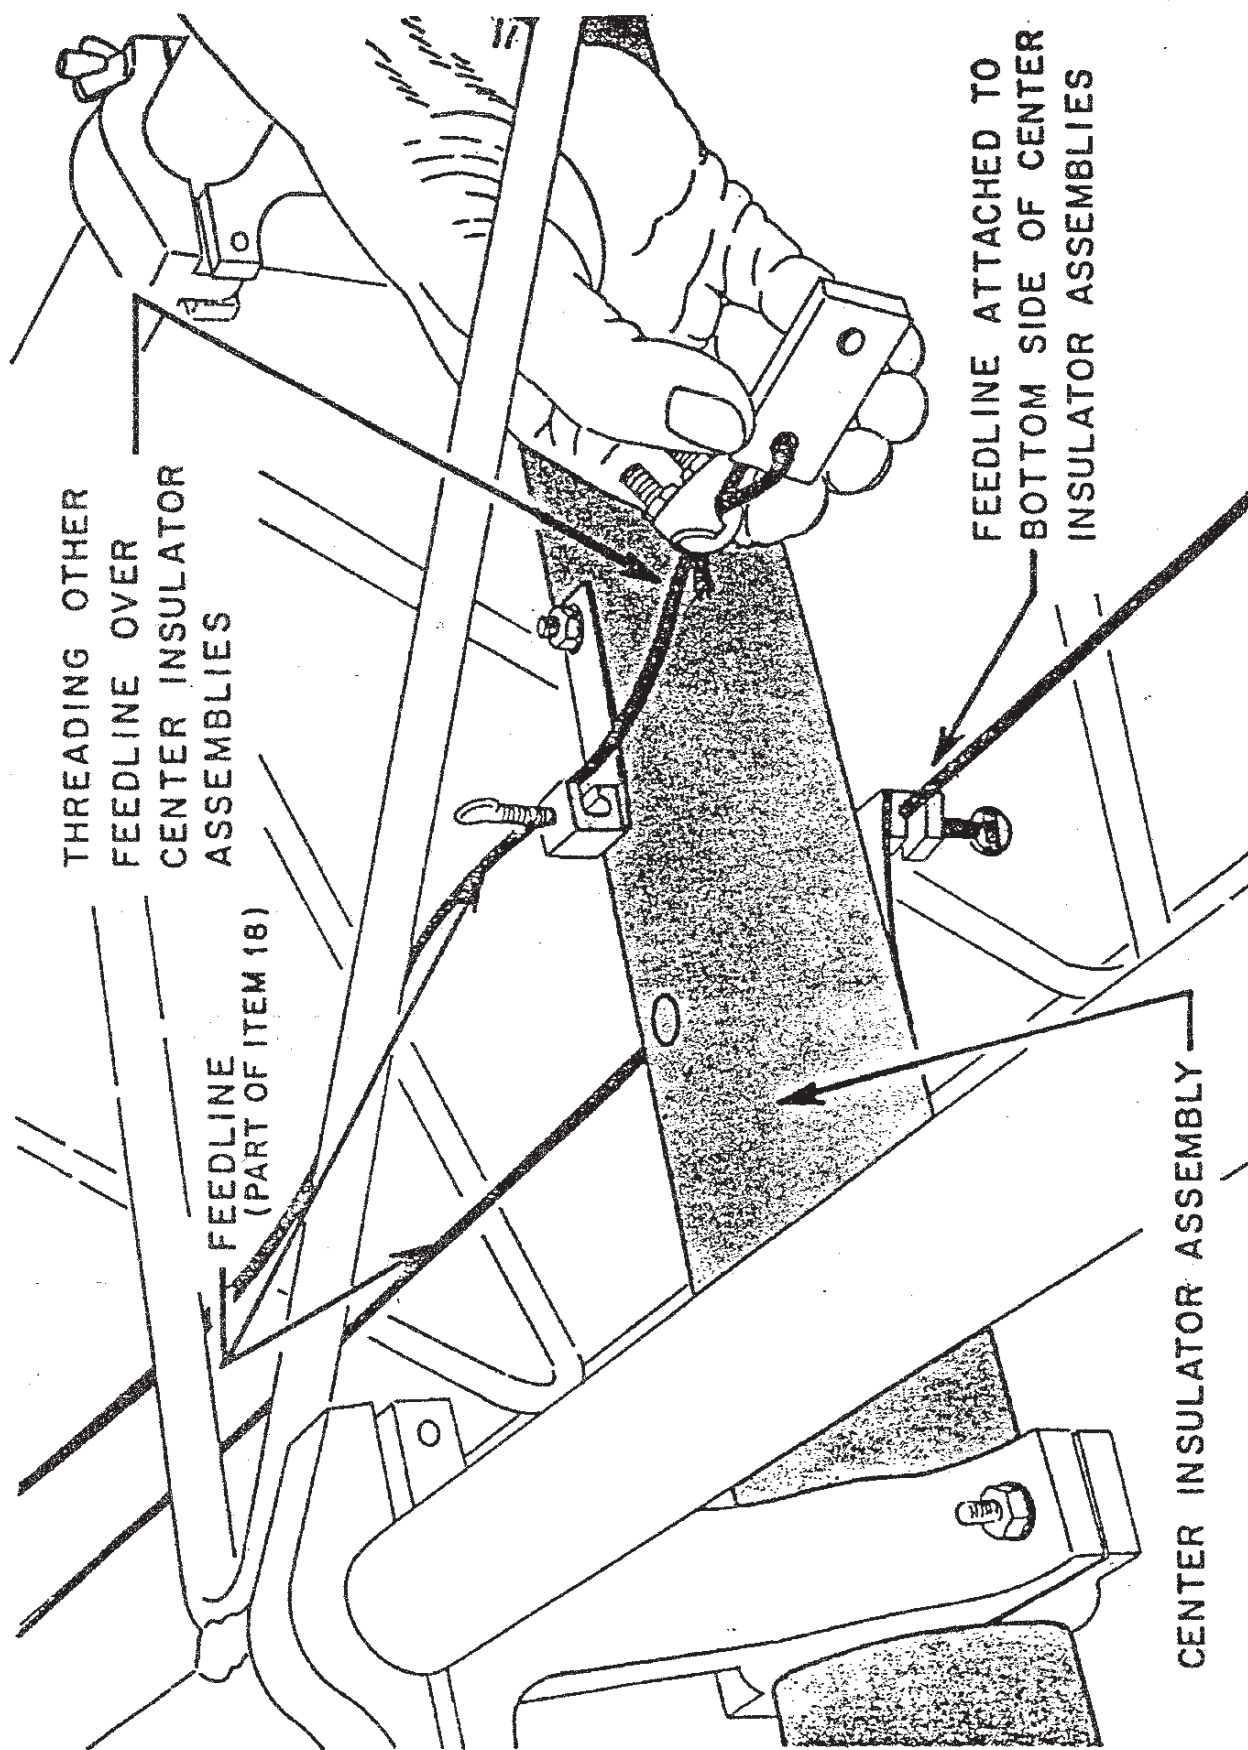

Figure 2-38
- m. Starting at the front end of the antenna, thread the copper cables through the entire length of the boom. The copper cables MUST be placed on each side of the center insulator assembly as shown in Figure 2-38. One should be placed on TOP of the center insulator and the other copper cable should be placed UNDER the center insulators and through each of the connectors.